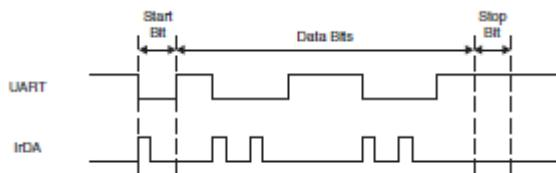

Figure 36-7. UART vs IrDA Data Format
**IrDA Encoding** The encoder sends a pulse for every zero bit in the transmit bitstream coming from the UART (see Figure 36-7). The pulse duration is defined by UCIRTXPLx bits specifying the number of one-half clock periods of the clock selected by UCIRTXCLK.